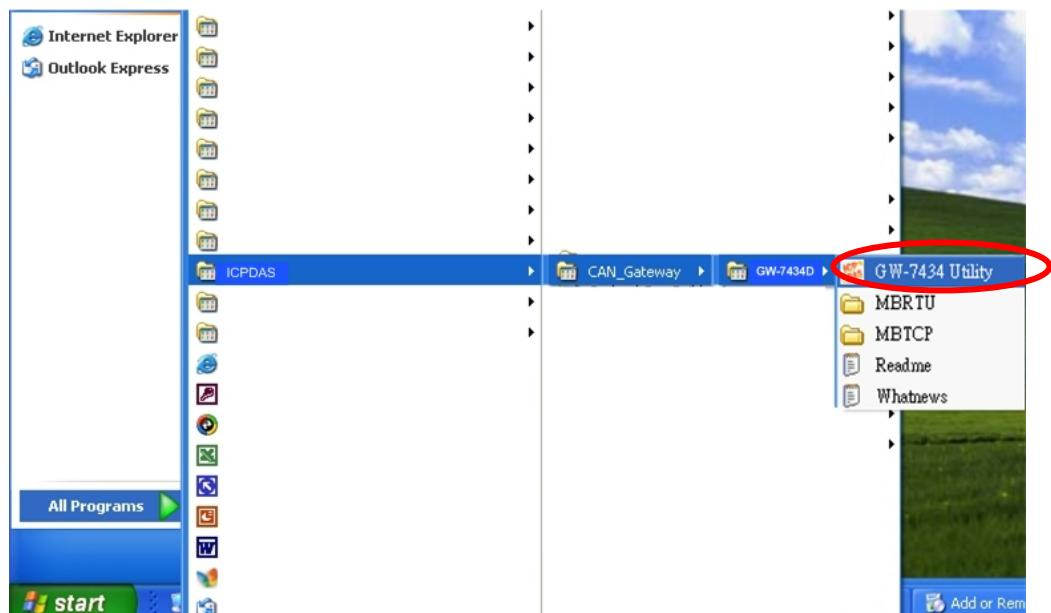

Figure 5-6: You can find “GW-7434D Utility“ at the “Start” in the task bar
Step 7: After finishing the installation of the GW-7434D Utility, users can find it as shown in figure 5-6.